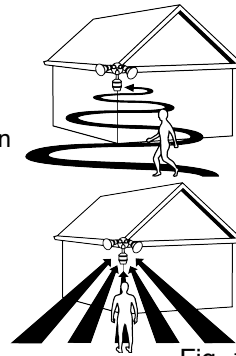

Fig. 1
- Locate motion sensor so motion moves laterally or towards the detection zone (Fig. 1).